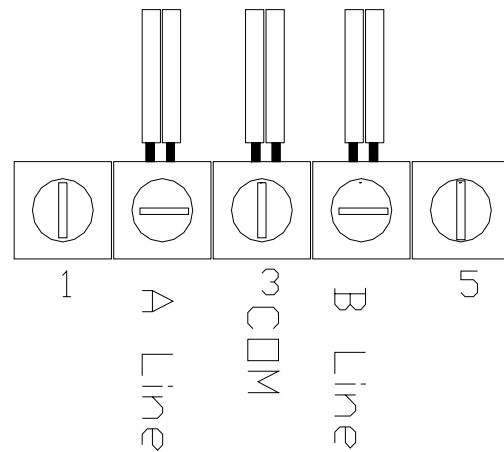

Fig.2. Profibus Connections.
3. Connect the Profibus cable to the terminal strip on the controller board. If the cable continues from the actuator, bring both the incoming and outgoing cables to the terminal strip on the controller board. If the cable ends at this actuator, install the termination jumpers on the connector. See Fig.2.